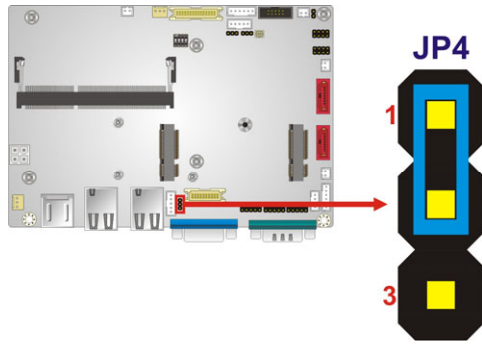

Figure 4-4: LVDS1 Voltage Selection Jumper Location
- Jumper Location:** See **Figure 4-4**